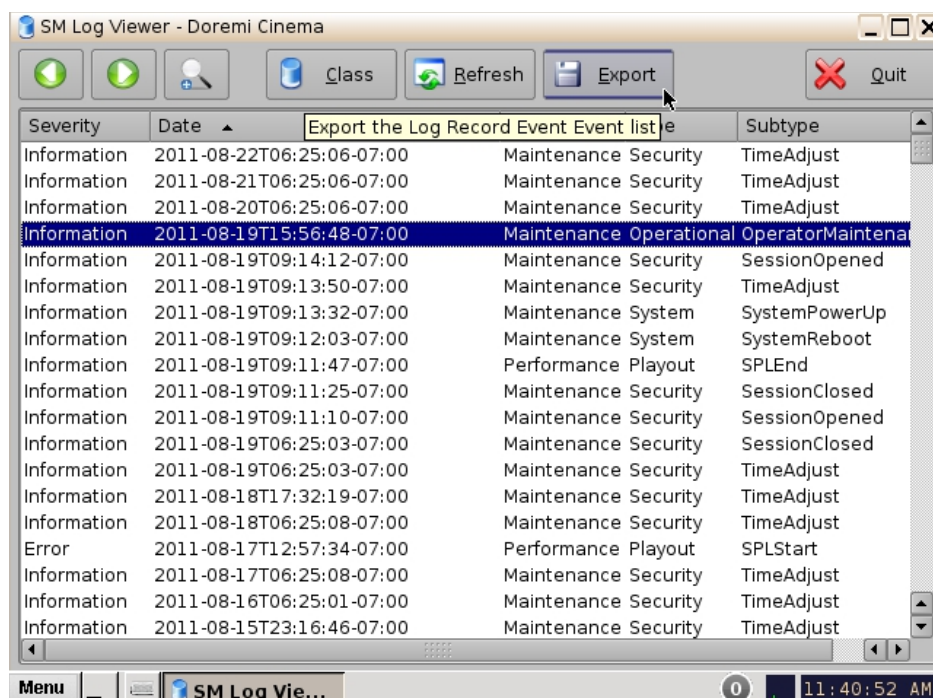

Figure 135: SM Log Viewer Log - Export
- To export the log, select the concerned log and click on the Export button (Figure 135).